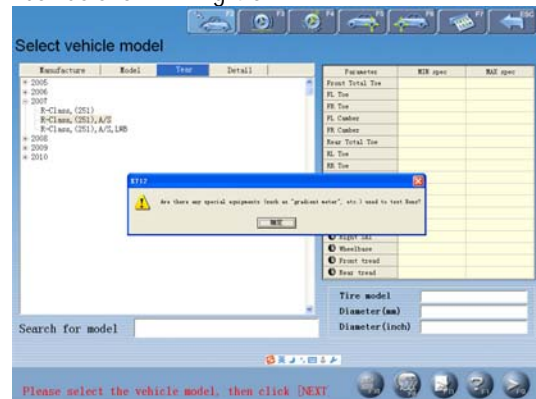

Fig.4.5
1. Aiming at some vehicle model of Benz, the system provides the operations for measuring the standard data with gradient meter. When the data selected is of Benz vehicle, the system will pop up a dialogue box as shown in Fig.4.5.